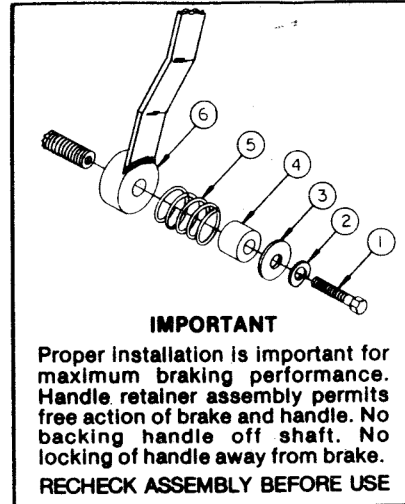

Fig. 1: Handle Retainer Assembly
- A. **HANDLE.** Insert handle (Item 6, Fig. 1) on threaded brake assembly shaft. Thread handle to point of engagement (touching) of brake pad.
- B. **HANDLE RETAINER ASSEMBLY.** Insert bolt (Item 1, Fig. 1) through lockwasher (Item 2, Fig. 1), flatwasher (Item 3, Fig. 1), spacer (Item 4, Fig. 1) and spring (Item 5, Fig. 1—spring will fit over spacer). Recheck Fig. 1 to insure proper order of assembly. Install bolt containing assembled retainer parts (Fig. 1) into threaded end of brake shaft and tighten bolt securely.